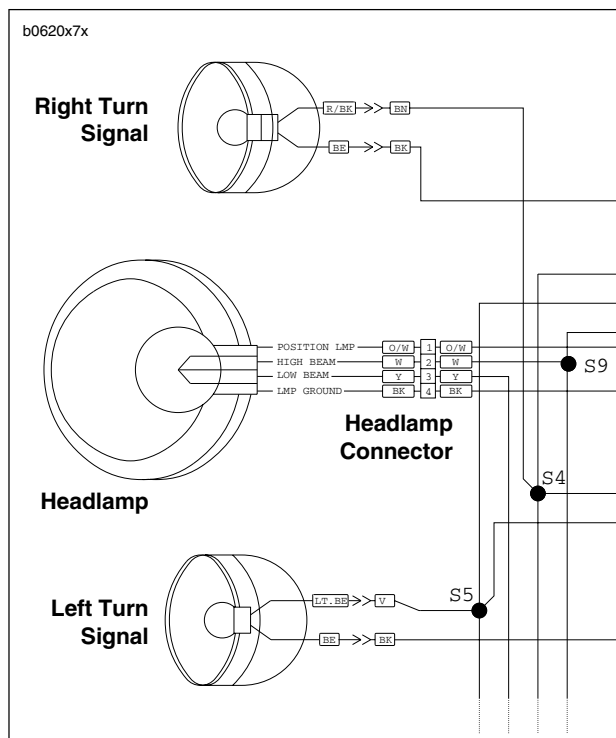
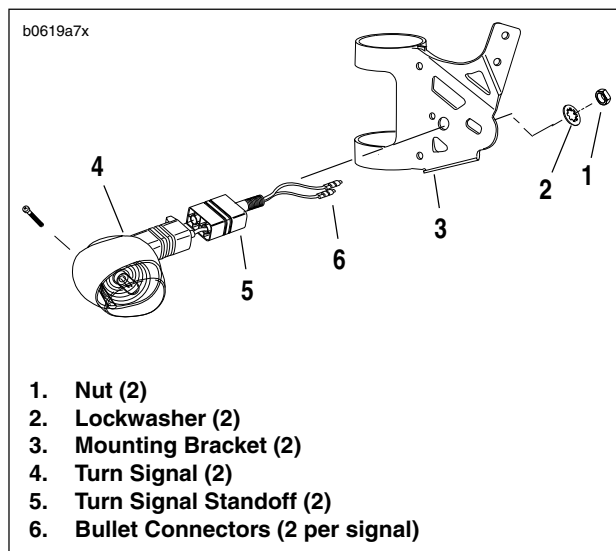

Figure 7-42. Front Turn Signal Connections
Figure 7-43. Front Turn Signals
2. See Figure 7-42. Disconnect bullet connectors on turn signal wires.
3. See Figure 7-43. Remove nut (1) and lockwasher (2) from mounting bracket (3).
4. Remove turn signals (4) and standoffs (5).
5. Pull bullet connectors (6) and wiring through hole in mounting bracket (3).
1. See Figure 7-43. Insert bullet connectors (6) through hole in mounting bracket (3).
2. Install turn signal (4) and standoffs (5) using lockwasher (2) and nut (1). Tighten nut to 25-28 in-lbs (2.8-3.2 Nm).
3. Attach bullet connectors on turn signal wires as shown in Figure 7-42.